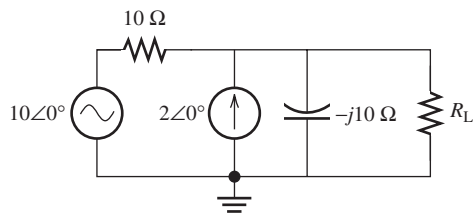

FIGURE P6.52 Circuit for Problem 6.52.
- 6.52 (H) Find the Thévenin and Norton equivalent circuits for the circuit shown in Figure P6.52, as seen by the load resistor, R_L .